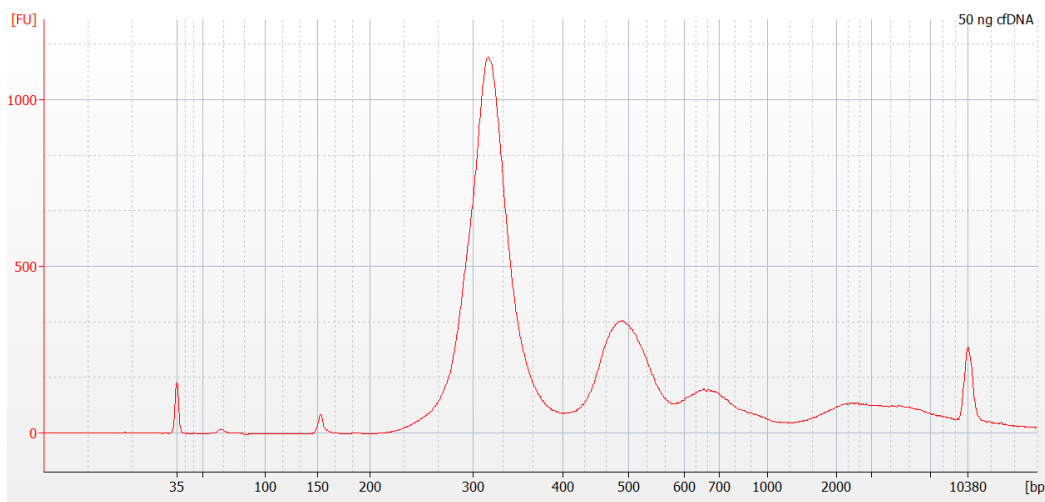

Figure 3: Example of a Pre-Capture amplified cfDNA sample library analyzed using an Agilent Bioanalyzer High Sensitivity DNA assay.
- Amplified Sample Libraries (Pre-Capture libraries) should have an average fragment size distribution at $\sim 320 \text{ bp}$ (Figure 3) with a range setting at 150 to 1000 bp on the Bioanalyzer. Sharp peaks may be visible in the region $< 150 \text{ bp}$. These peaks correspond to unincorporated primers, primer-dimers or carryover adapter dimers and will not interfere with the capture process.